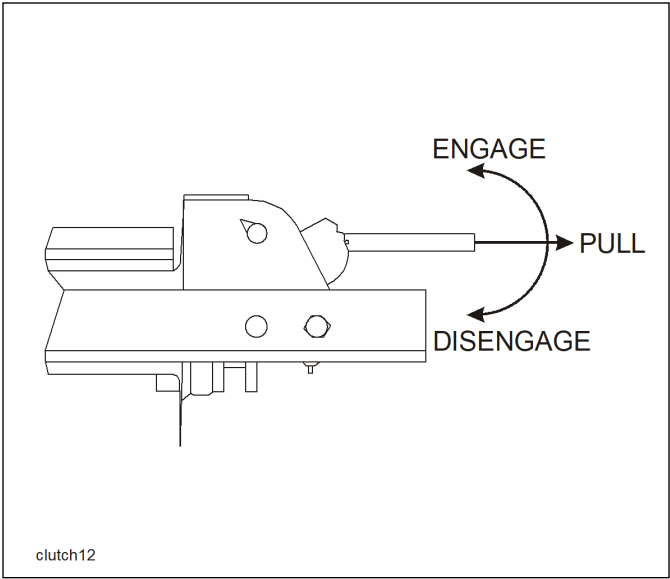

**Figure 3-6: Air/Hydraulic Kickout**
2. The air freespool clutch is operated by application of air pressure to the fitting supplied on the winch gearbox housing (See Figure 3-6.) The fitting is designed to accept 1/4" rigid plastic tubing.